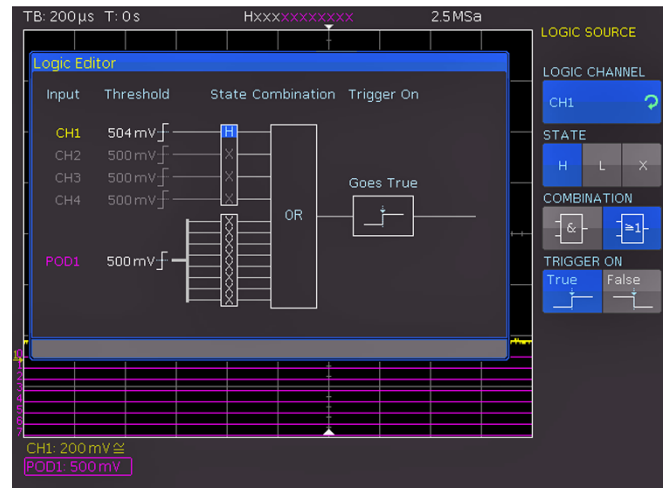

Fig. 6.5: Logic trigger menu
tings and a window to list these settings (see Fig. 6.5). The top soft menu key enables you to select a logic channel for which you wish to determine the trigger condition. Use the universal knob for this purpose. In the general menu, the selected digital input is marked with a blue background. In the field, the trigger level is marked as High (H), Low (L) or (X). Use the corresponding soft menu key to select the trigger level. As before, the selected level will be marked in the soft menu with a blue background. Another soft menu item allows the logic combination of the digital channels. They can be combined by logic AND or OR. If AND is selected, the set conditions of all channels must be met simultaneously for the input signal so that the combination produces a logic High (H) as a result. If OR is selected, at least one of the defined level conditions must be met. The last item in this menu is the option TRIGGER ON. Use the soft menu key to select TRUE or FALSE. This allows you to preselect whether the trigger will be generated at the beginning (TRUE) or the end of the logic condition (FALSE).